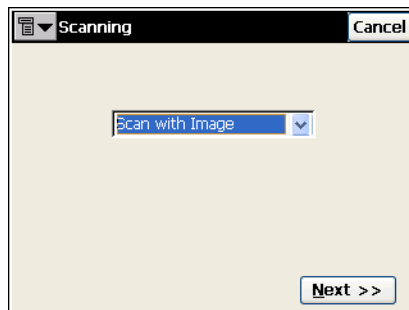

Figure 6-40. Scan with Image
*For Scan with Image* (Figure 6-40).